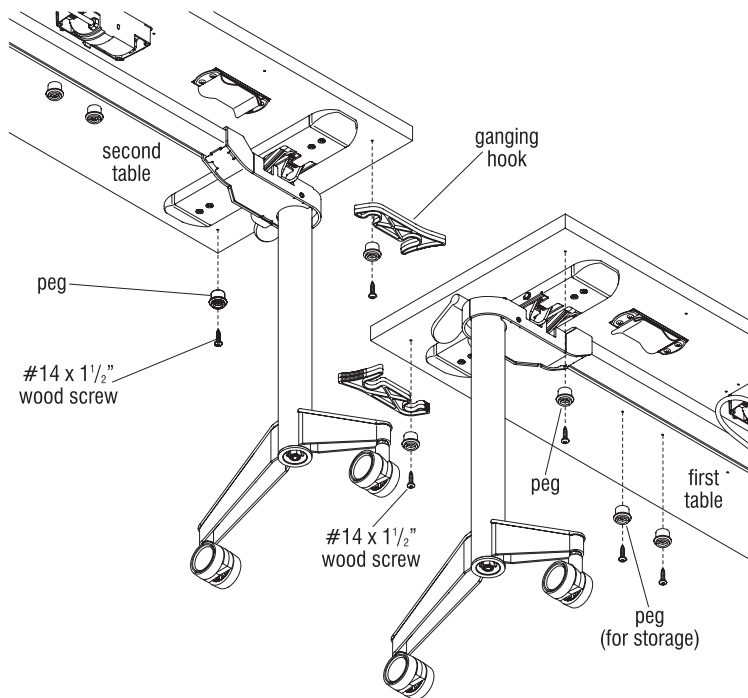

Figure 15 - 18" Nesting-Base Tables with Table-to-Table Ganging
1. Carefully turn table to the upright position. As illustrated, position the two ganging hooks as shown, at the underside of the first table. Install the two hooks to the first table using two pegs and #14 x 1½" wood screws. Next, install four pegs at the other illustrated locations on the first table for future use to store ganging hooks (Figure 15).
2. At the second table, install two pegs inline with the first set of pegs with installed ganging hooks and four pegs for future use to store ganging hooks (Figure 15).
3. Move tables together and swing the ganging hooks of the first table to securely engage the pegs under the second table (Figure 15 & 16).